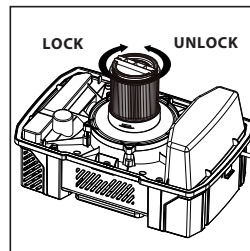

FIG. 3
- Place filter retainer into the top of the cartridge filter, hold the power head with one hand, turn the handle on the filter retainer clockwise to tighten, locking the filter into place. (Fig. 3)